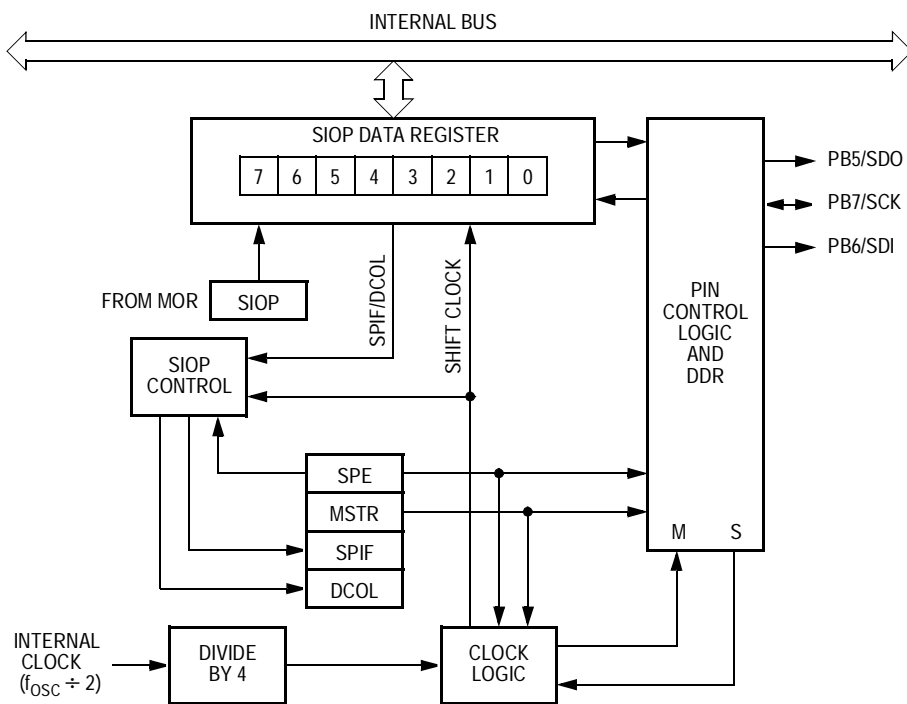

Figure 10-1. SIOP Block Diagram
**Figure 10-1** shows the structure of the SIOP module.